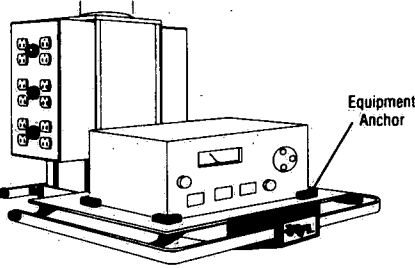

Figure 2-7. Secure Instrumentation to Platform
3. Make sure instrumentation (load) is centered on platform with weight evenly distributed. Instrumentation must not extend beyond lip-edge of platform (see Figure 2-7).
4. Use equipment anchors to secure instrumentation to platform so that no slippage will occur (see Figure 2-7).